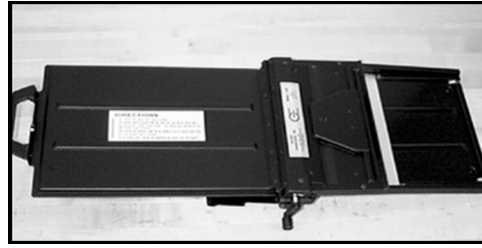

Figure 3
1. Open the 150P processor so both sides laying flat. (*Figure 3*)